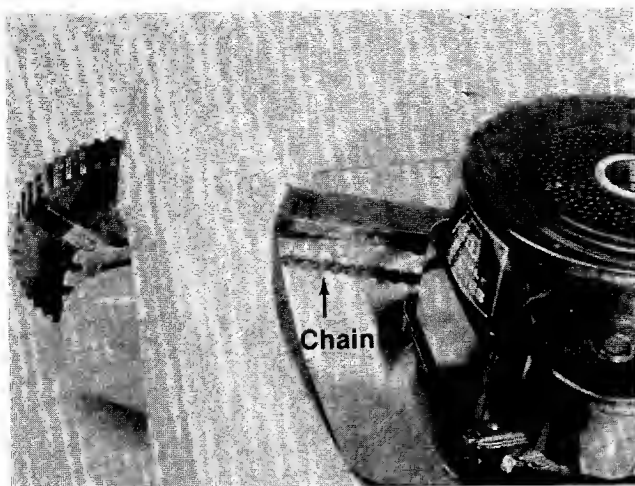

FIGURE 16.
**Chain**—The chain should be lubricated periodically with a few drops of light oil to prevent any rust or binding. See figure 16. Use very little or no oil if unit is being used in a dry or dusty area.